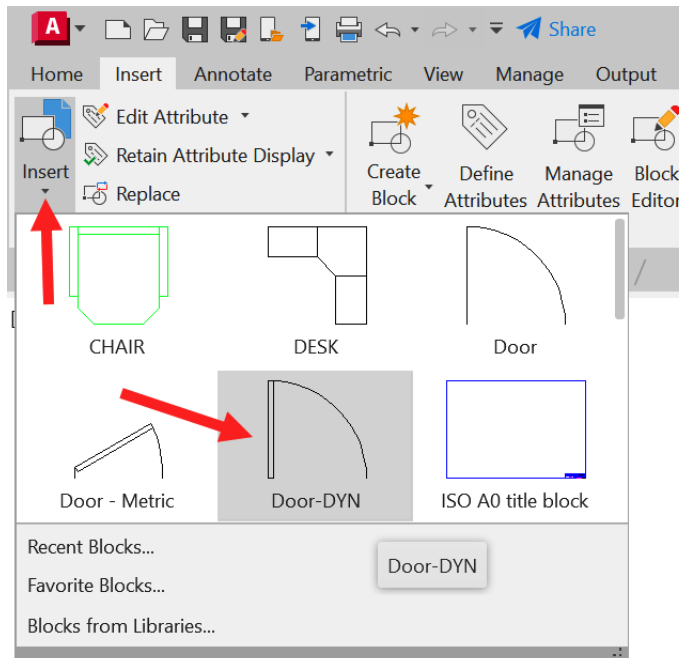

Figure 11.30: The Door-DYN dynamic block on the Insert dropdown
3. Click on the **Insert** tab on the ribbon, then click on the **Insert** dropdown at the left-hand end. You can see the **Door-DYN** block shown in the dropdown in *Figure 11.30*.